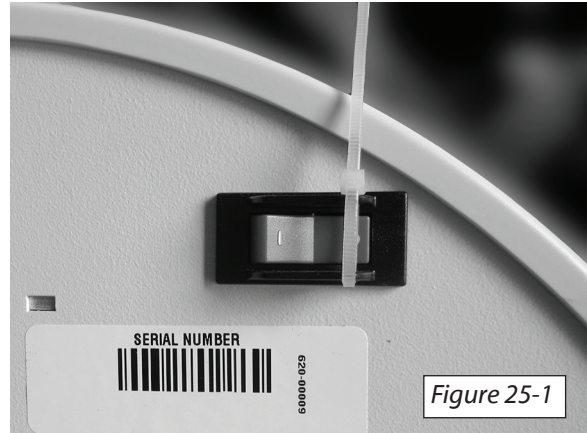

Figure 25-1
7. On the backside of the chassis, there is an on/off switch. Cut off and discard the shipping tie on the switch. [Figure 25-1]